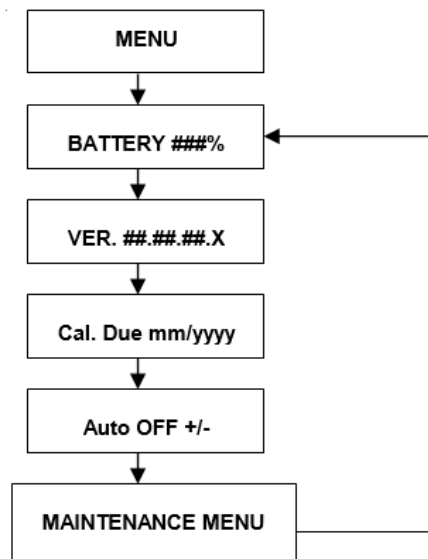

Figure 7 Display Menu Flowchart
- A. Once the MENU button is pressed, the user may use the **mV** ($\uparrow$) or the **°F** ($\downarrow$) soft keys to scroll through the message display and option menus as shown (refer to Figure 7):